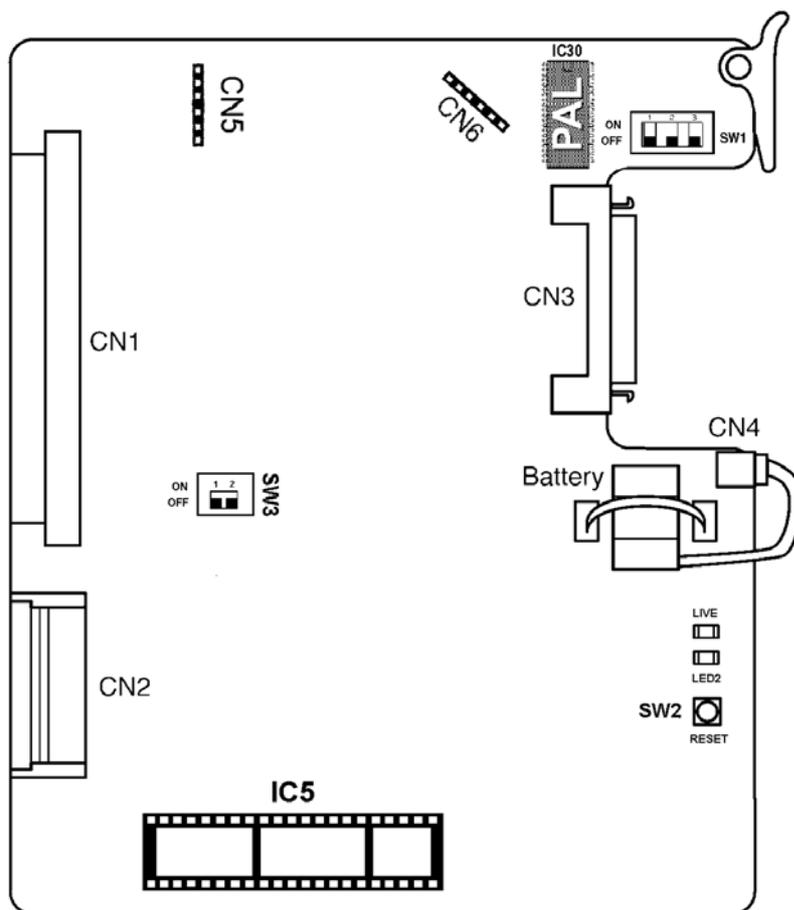

Figure 5-7 CPUB()-U13 ETU
Install this ETU in the CPU slot (first slot) of the B64-U13 KSU. One CPUB()-U13 ETU is installed with each system. Refer to *Figure 5-7 CPUB()-U13 ETU*.
1. Remove the battery cable from CN4 on the CPUB()-U13 ETU. (Refer to *Figure 5-7 CPUB()-U13 ETU.*)
7. Install Eprom into Socket IC5 (Refer Fig 5-7)